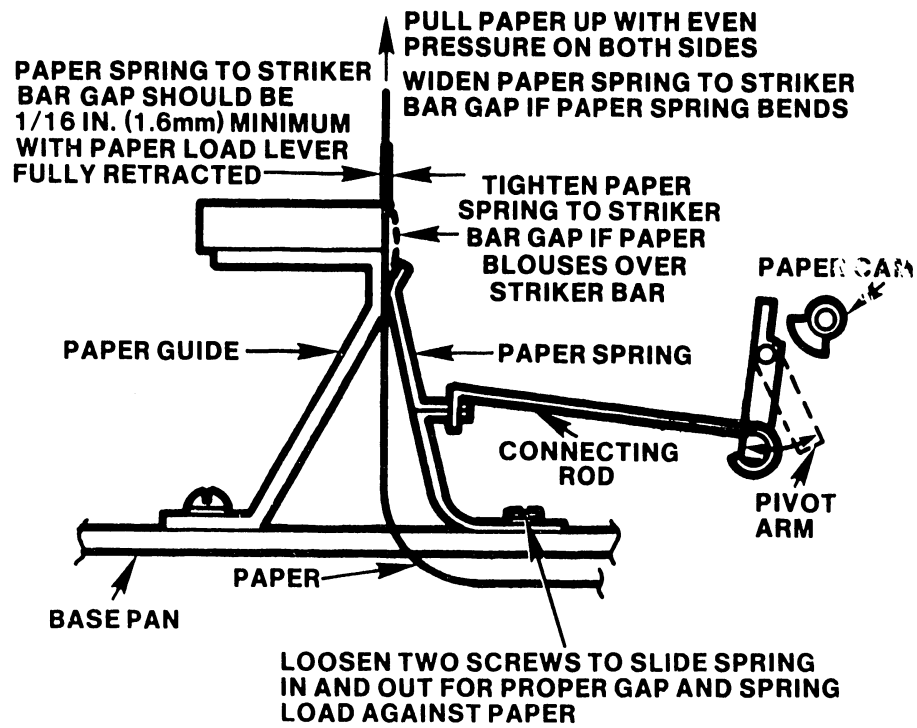

Figure 5-11 Paper Tension Spring Check
- b. Move the print head retraction lever to the fully retracted position. Measure the distance from the striker bar to the paper spring. See Figure 5-11. It should be no less than 1/16" (1.6mm) minimum. If not at least 1/16", perform the spring adjustment in Paragraph 5.3.22.
- a. Insure the print head retraction lever is fully retracted. Loosen the two screws at the base of the paper tension spring illustrated in Figure 5-11.